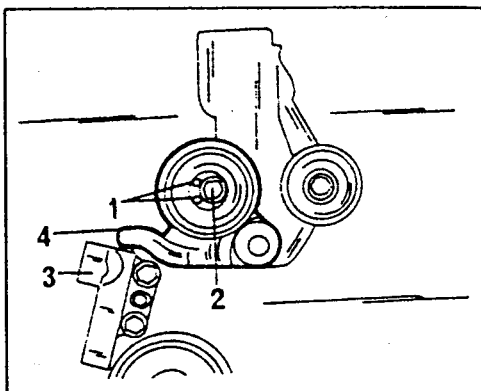

Fig. 157. — Rotate the tensioner roller until the two holes are in the position shown.
- Fit the roller to the tensioner arm and rotate it until the two holes (1) in Fig. 157 are towards the L.H. side of the centre bolt, and tighten the bolt finger-tight. Do not remove the wire at this stage.